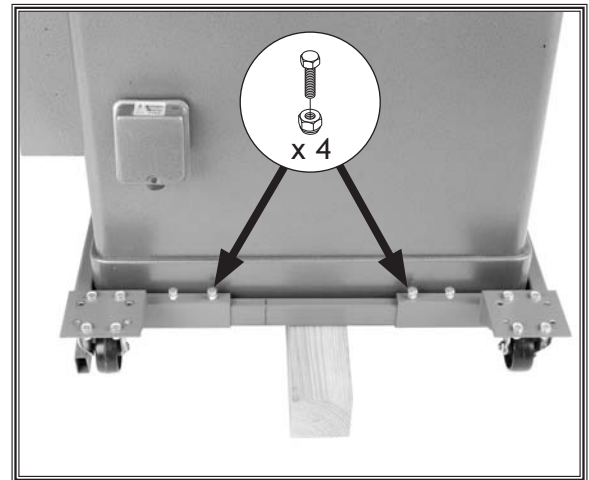

Figure 20. Rear rail-fixed caster assembly secured.
11. Fasten the corner brackets to the rail with (4) M8-1.25 x 25 hex bolts, and 8mm lock nuts, as shown in **Figure 20**.